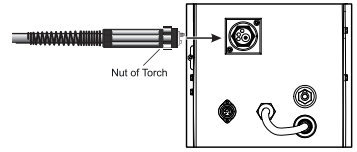

Figure 3: Connecting the Torch
- Connect one end of the tube hose (24) to the gas regulator (20) and tighten the clamp. Connect the other end to the gas inlet on the back of the machine and tighten the nut.
- Open the gas cylinder valve (22) to check if the gas cylinder is full and if there is a leak in the gas path. If you hear gas sound and/or gas smell, check the connections and remove the leakage.
- Connector designed as Euro connect type. All euro connect model standart and spoolgun torches are compatible with your machine. Some wires can weld at negative polarity. For reversing polarities on your machine, please plug your pole connection to the negative (-) plug and grounding clamp to positive (+) plug (Figure 3).